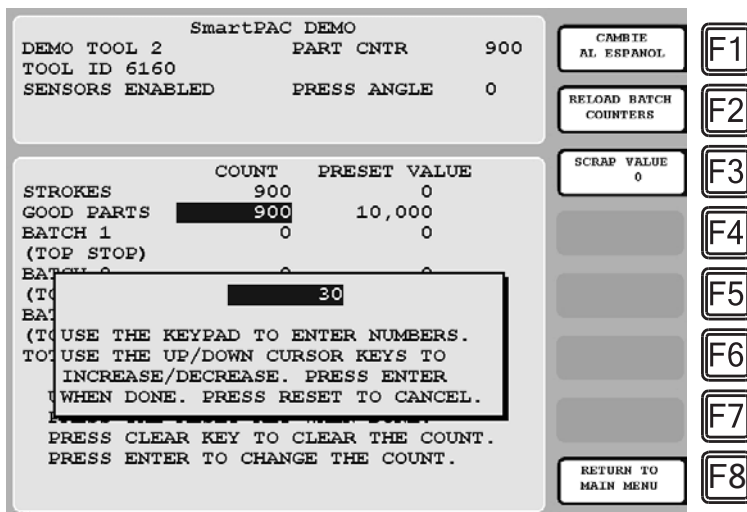

Figure 7 - Counters Screen with Scrap Value Entry Window Displayed (30 Items Shown)
1. On the Set Communications Menu, highlight the SET SPECIAL NAMES item and press ENTER. The Dialog Special Choice Name Menu (see Figure 7) displays with the cursor resting in the SPEC. 1 field.
2. Press **F3** (Scrap Value). The Scrap Value Entry window displays (see Figure 7).